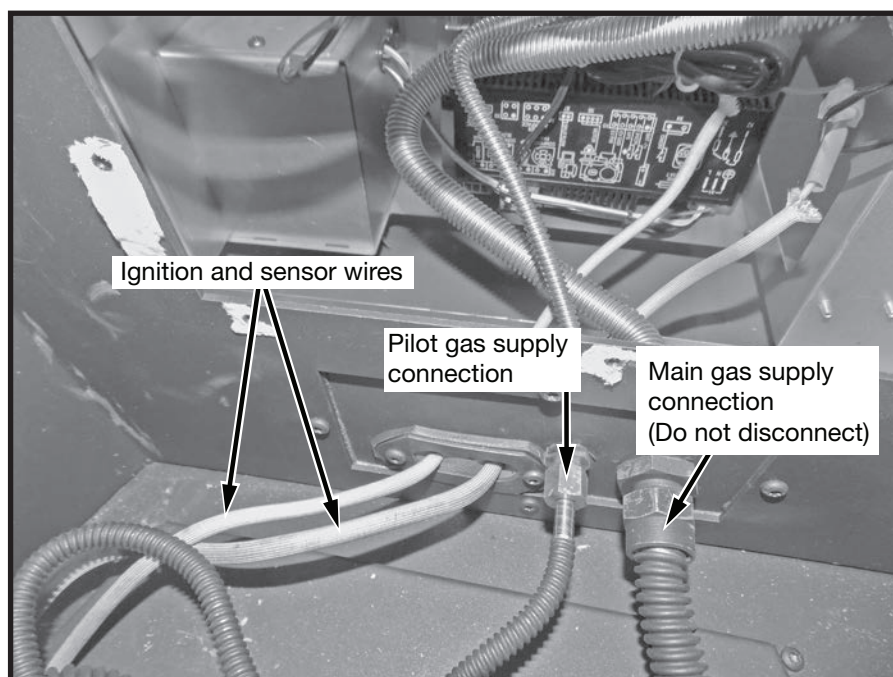

Figure 26: Connections at bulkhead.
4. Disconnect the pilot gas supply line at the bulkhead (Figure 26). DO NOT disconnect the main gas supply line from the bulkhead.